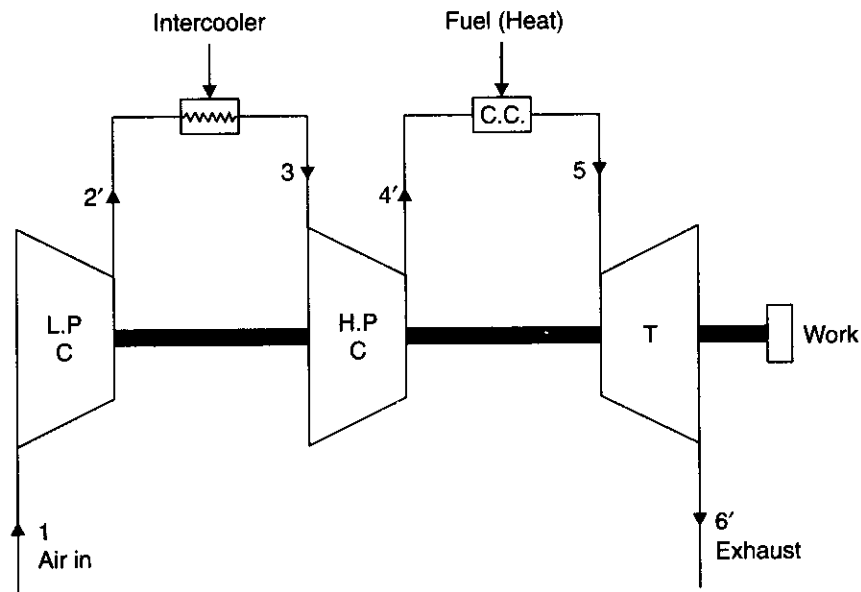
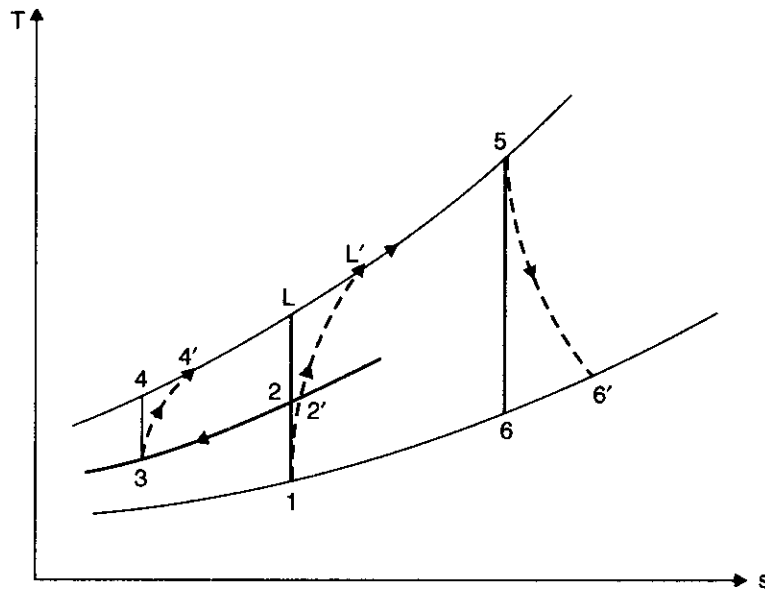

Fig. 13.37. Turbine plant with intercooler.
Fig. 13.38.  $T$ - $s$  diagram for the unit.
1. **Intercooling.** A compressor in a gas turbine cycle utilises the major percentage of power developed by the gas turbine. The work required by the compressor can be reduced by compressing the air in two stages and incorporating an intercooler between the two as shown in Fig. 13.37. The corresponding *T-s* diagram for the unit is shown in Fig. 13.38. The actual processes take place as follows :